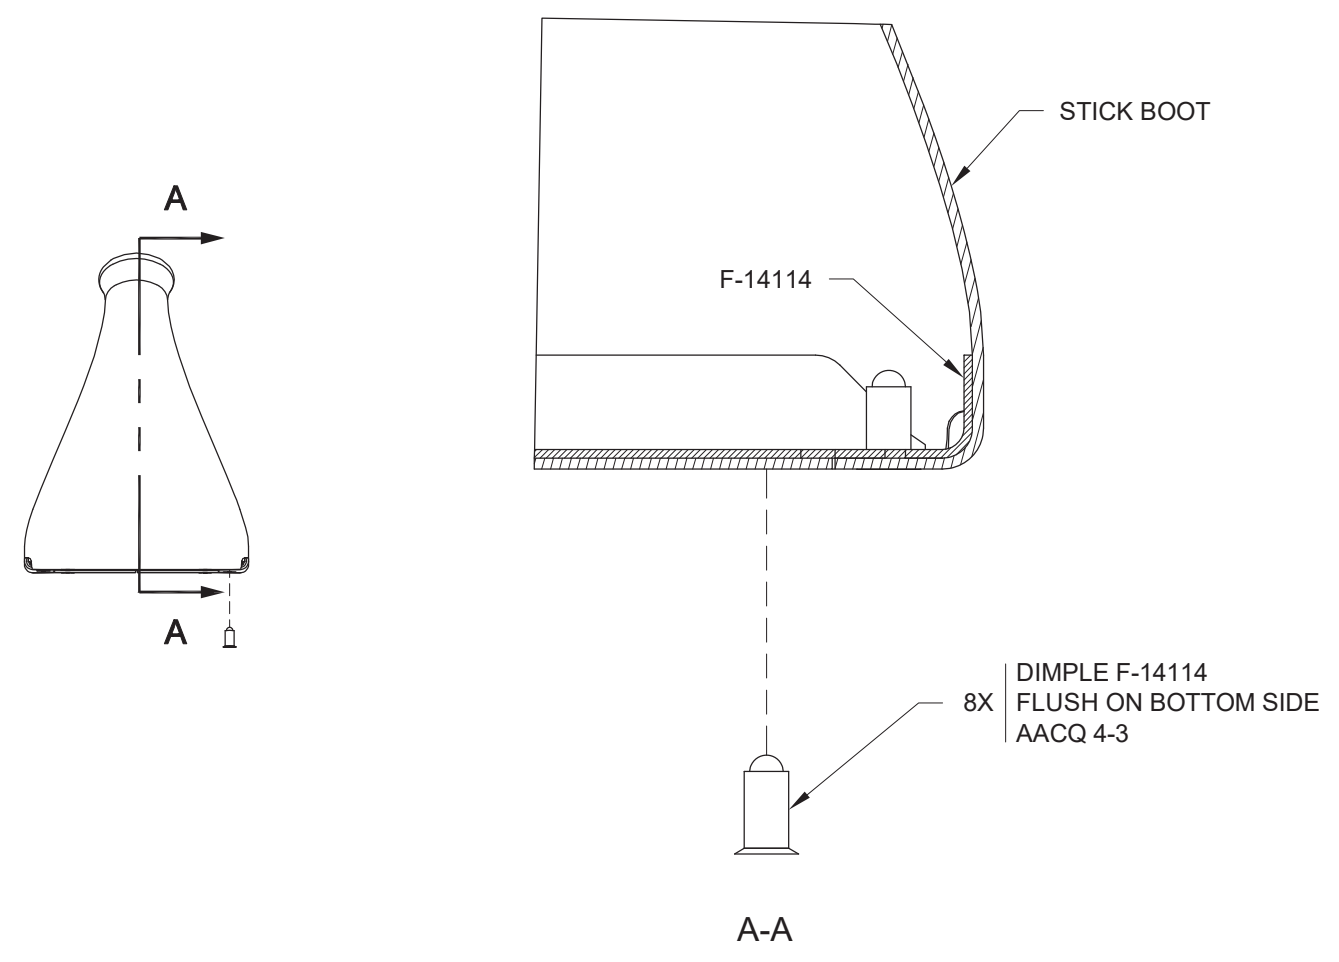

FIGURE 1: STICK BOOT AND STICK BOOT DOUBLER ASSEMBLY
Step 1: The F-14114 Control Stick Boot Doublor is provided in the kit. It can be attached to the stick boot (not supplied with kit) as shown in Figure 1 and installed using the screws called out in Figure 2.